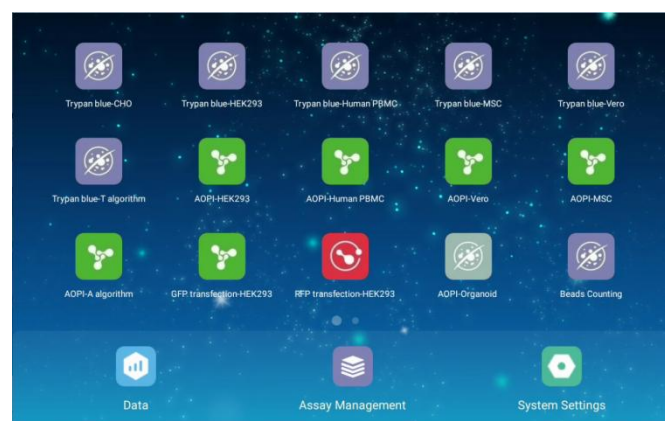

Fig. 2.8 Experimental interface
4) After approximately 30 s to end the animation, the main graphical user interface menu appears automatically, as shown in **Fig. 2.8**.